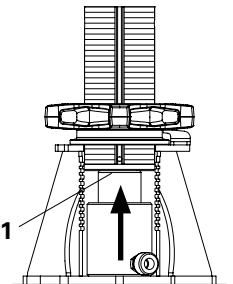

Fig. A5.02a
1. Insert hydraulic cylinder into the Lowering Jack (1).
2. Operate pump lever until the cylinder rests on the red pressure ring (1.1) of the Spindle Tube. (Fig. A5.02a)